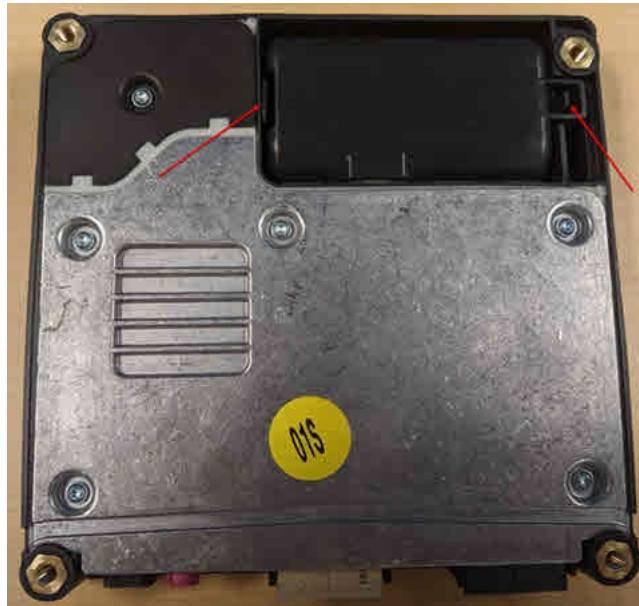

Figure 2. Backup battery compartment location.
2. Open the battery compartment of the control module for the emergency call module and communication unit, -J949- (address word 0075), and disconnect the backup battery (Figures 2 - 3).